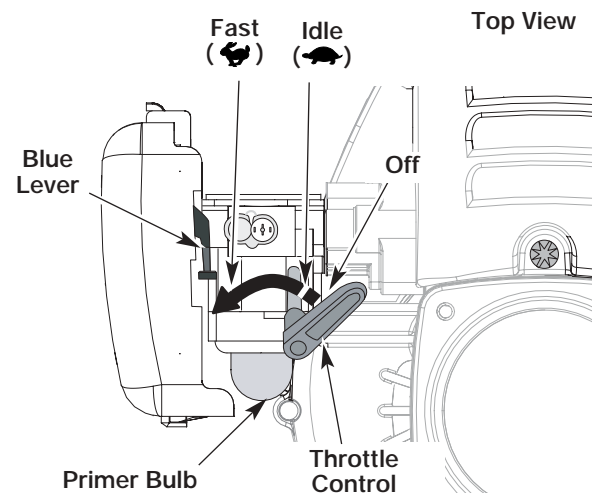
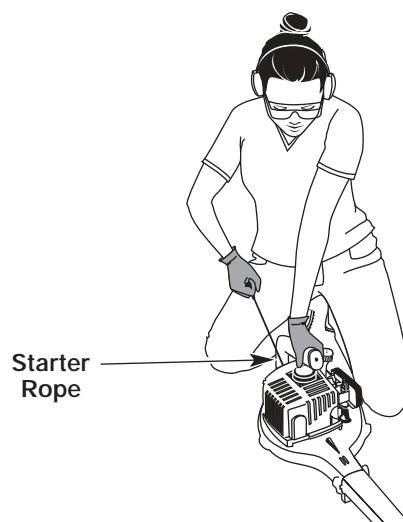

Fig. 2
Fig. 4
WARNING: Avoid accidental starting. Make sure you are in the starting position when pulling the starter rope (Fig. 4). To avoid serious injury, the operator and unit must be in a stable position while starting.
2. Fully press and release the primer bulb 10 times, slowly. Some amount of **fuel should be visible in the primer bulb** (Fig. 2) and fuel lines. If you can't see fuel in the bulb, press and release the bulb as many times as it takes before you can see fuel in it.
4. Place the unit in the starting position (Fig. 4). Move the throttle control to the fast position (🚗) (Fig. 2).
1. To turn off the blower, move the throttle control lever all the way to the right, past the idle position (🐢) until it clicks. Make sure you move the lever into the furthest right detent in order to turn the unit off (Fig. 2).